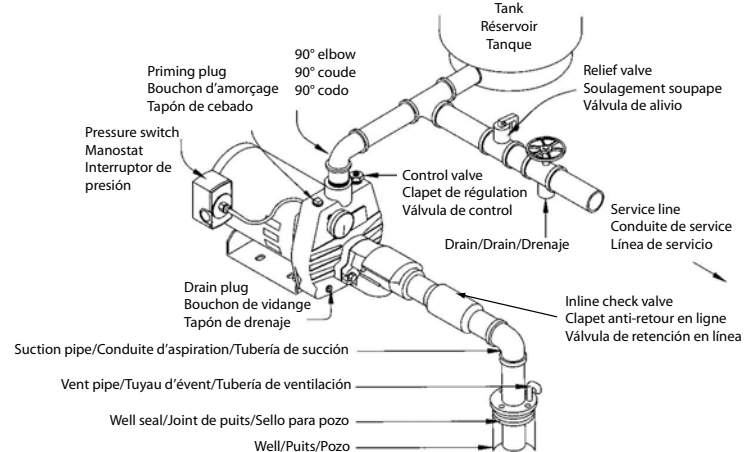

Figure 8
**Suction and Pressure Pipe:** Only new, clean 1-1/4" pipe or hose should be used. If the pump is installed any appreciable distance away from the source of water, the suction pipe should be increased to 1-1/2". Horizontal lengths of pipe must gradually slope upwards from the source of water to the pump to avoid air pockets in the line. Thread compound should be used on all pipe joints and connections should be thoroughly tightened. **Install a foot valve and check its operation** because a leak will prevent proper operation of the system. Make sure the foot valve is located so that it will be submerged at all times. If the well cannot supply as much water as the pump can draw, install a tailpipe up to 30 feet long between the injector and the foot valve. As the well draws down under heavy demand, the pump's capacity will be reduced, and the level will not go below the foot valve, which would cause the pump to lose its prime. If a sandpoint or driven well is used, install a check valve next to the pump suction instead of the foot valve (Figure 8). **All installations must have a foot valve or a check valve in the suction pipe.**